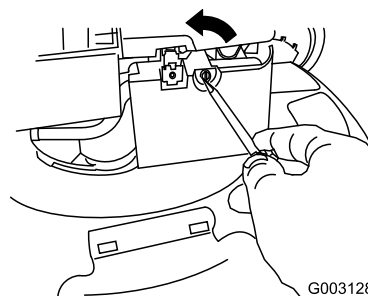

Figure 32
2. Use a screw driver to open the air-filter cover (Figure 32).